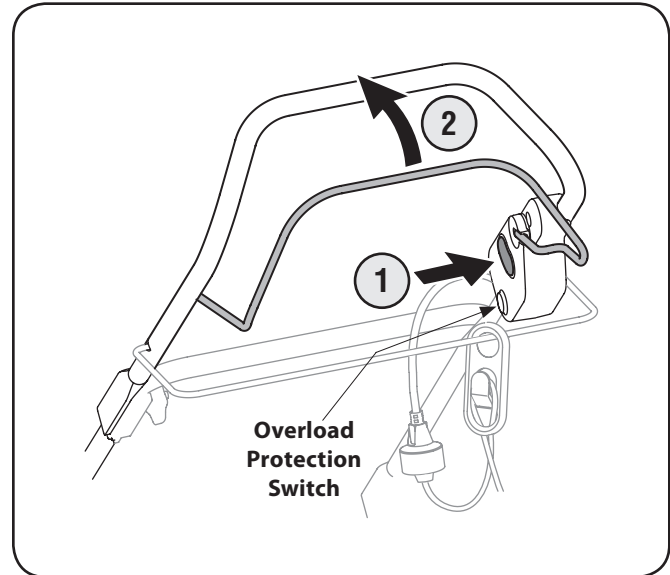

Figure 5-2
3. Depress the (red) starter button and hold it in. See Fig. 5-2.
4. While holding the starter button in, pivot the motor/blade control handle upward against the upper handle to start the motor and engage the blade. See Fig. 5-2.